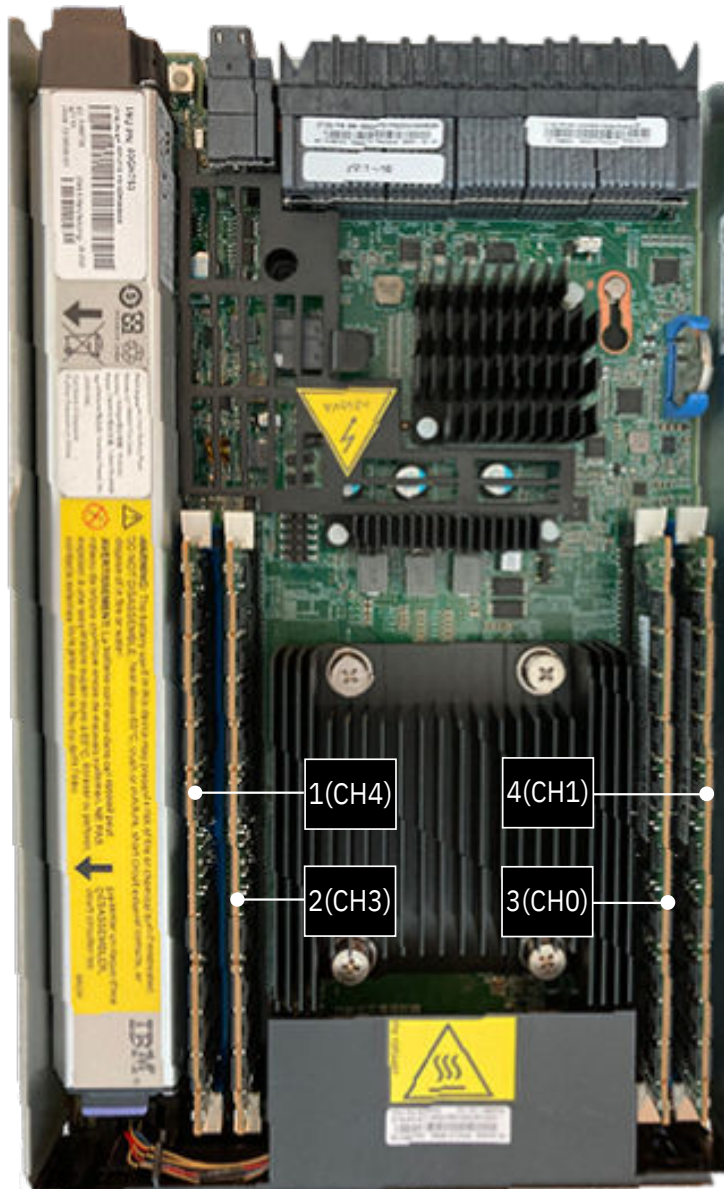

Figure 69. Location and numbering of the DIMM slots
Figure 69 on page 129 illustrates the physical layout of the four DIMM slots and CPU as present inside the node canister. DIMM slot numbering, as seen in this figure, also appears embossed on the adjacent fan assembly.
- If a node error 510 is logged and event ID 073510, the sense data includes information such as, the detected size of the DIMM in slot 1, 2, 3 and 4, followed by the expected size for each slot. Compare each detected capacity with the expected size to determine which DIMMs are faulty. See Table 48 on page 130 for permitted configurations and Figure 69 on page 129 for the physical location of each DIMM slot inside the node canister.
6. Refer to Figure 69 on page 129 to locate the appropriate DIMM slot.